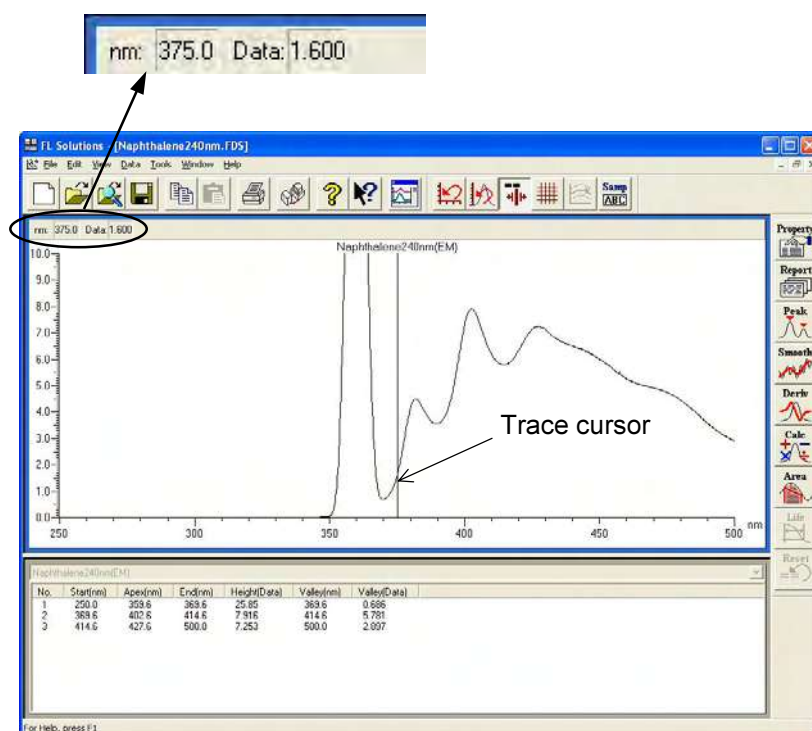

Fig. 7-3
- (1) Click the  (trace cursor) button on the Spectrum toolbar. A trace cursor appears on the spectrum. The wavelength and photometric value at the cursor position are indicated at the upper left in Fig. 7-3.
- (1) The scale can be expanded with the left button of the mouse. Bring the trace cursor onto the spectrum window (Fig. 7-3).
- (2) Specify an area to be expanded. Draw a rectangle while holding down the left mouse button, and then release the button. The area will be expanded.